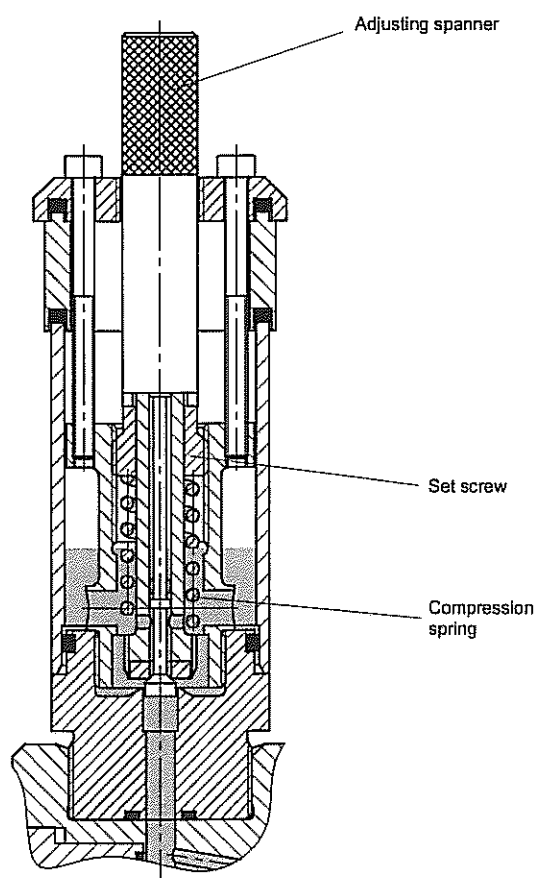

Fig. 47
- Turn slowly the adjusting screw anti-clockwise by means of an adjusting spanner with the pump running (see Fig. 47) until the fluid level in the store tank rises suddenly - > hydraulic discharge valve opens.